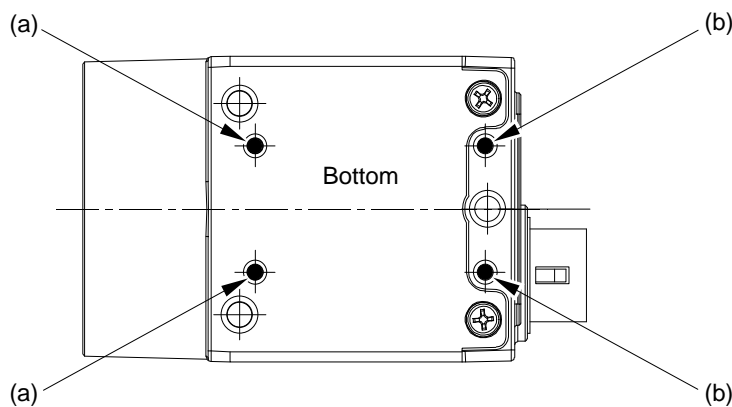
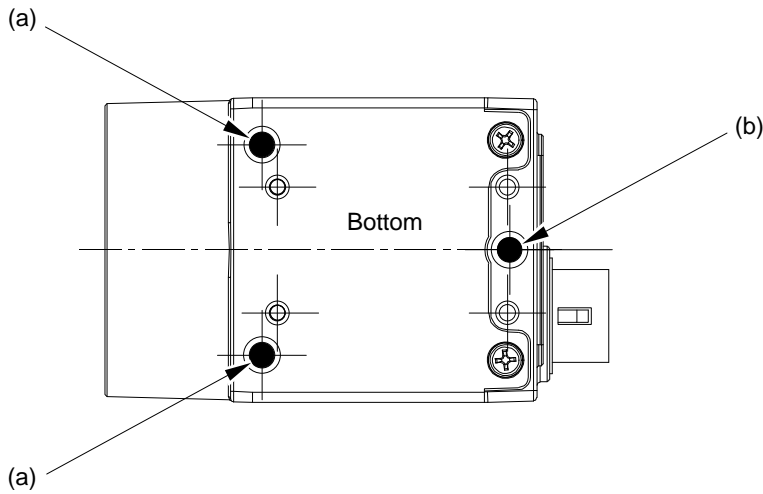

Fig. 27: Designations of the Mounting Screw Holes for the M2 Screws.
Fig. 28: Designations of the Mounting Screw Holes for the M3 Screws.
The tightening sequences are illustrated in Figure 27 and Figure 28 for cameras with C-mounts. However, the tightening sequences apply equally to cameras with CS-mounts.
1. Tighten the screws for the mounting screw holes (a) in Figure 27.
2. Tighten the screws for the mounting screw holes (b) in Figure 27.
1. Tighten the screws for the mounting screw holes (a) in Figure 28.
2. Tighten the screw for mounting screw hole (b) in Figure 28.